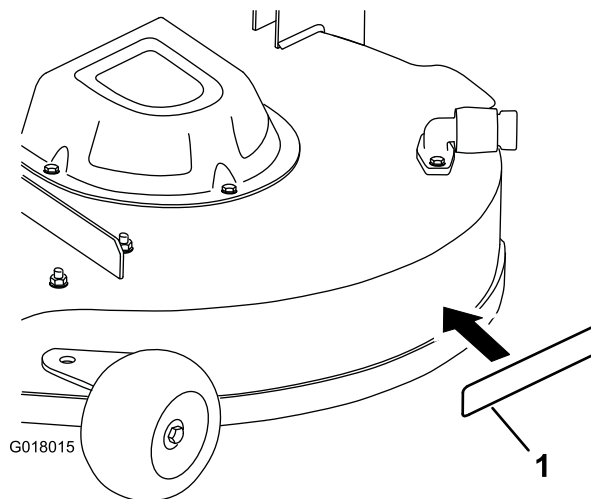

Figure 5
14. Install the decal to the area shown in Figure 5.
- C. Peel the decal from the backing and install it in place (Figure 5).